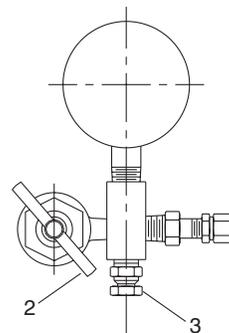

Figure 4
- (A) Remove protective cover (A) and the secondary seal (B) from the Diaphragm accumulator. Check torque on the gas valve to be 9 ft-lbs (10.3 cm kg).
- (B) Refer to Figure 4. Back gas chuck "T" handle (2) all the way out (counterclockwise), attach charging and gauging head assembly by screwing the air chuck (2) to the valve stem of the Diaphragm accumulator and tighten (10-15 in lbs) (11.5-17 cm kg).
- (C) Close bleed valve (3).
- (D) Turn "T" handle (2) in clockwise motion.
- (E) When finished checking the precharge, turn "T" handle (2) counterclockwise all the way, then open bleed valve (3).
- (F) Using a wrench to prevent the gas valve assembly from rotating, remove the charging assembly from the accumulator.
- (G) Replace secondary seal (B) and protective cap (A).
For accumulators having gas valve as shown in Figure 6, attach gauging assembly as shown in Figure 4 following Steps A through D. Then, open bleed valve (3) until all gas pre-charge is relieved from accumulator. Then remove gauging assembly. The accumulator is now safe to remove from the system.